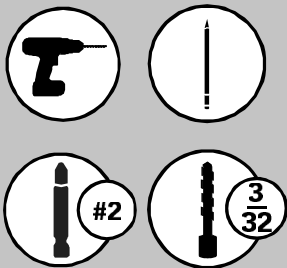

**FIG. 3**
Extend the slides to full extension and use the (4) #8 washers and #8-32 X 3/8" flat head machine screws to secure the frame to the slides (See Figure 3).